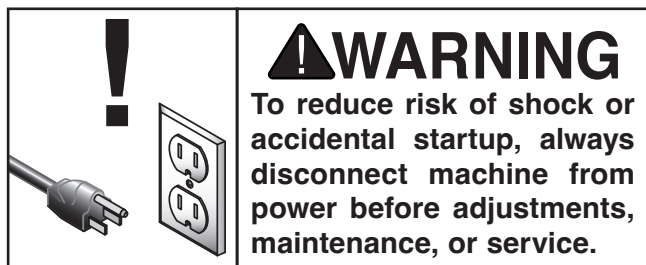

**Figure 20.** Completed cut.
8. Maintaining firm downward pressure on sled against table, feed sled through blade until sled miter bar contacts sled stop and workpiece cut is completed (see **Figure 20**).